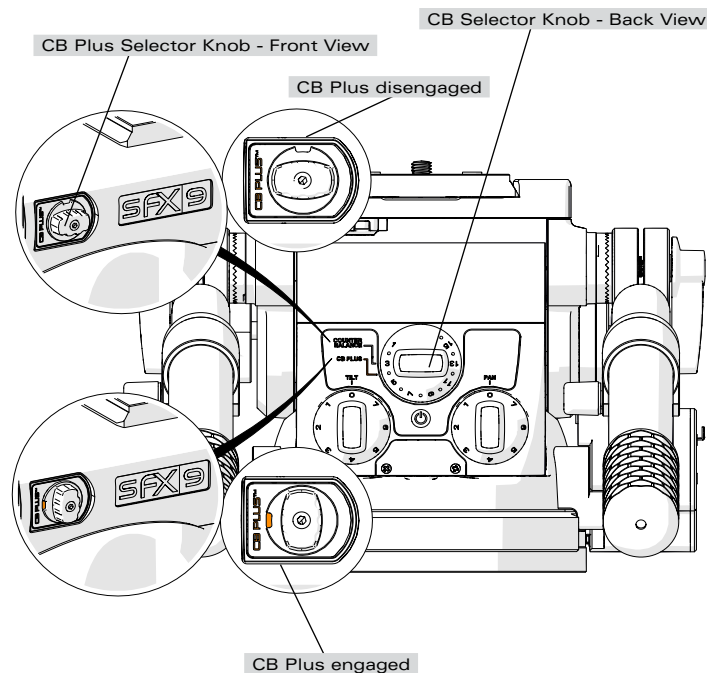

Fig. 12
- 6.3 Finer adjustments can be made by toggling the CB PLUS SELECTOR KNOB (Fig. 12).